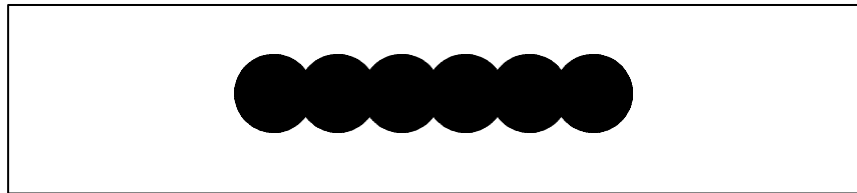

Figure 31 Normal Density Plot
Normal density plotting is selected with the odd dot plot control code ENQ (hex 05). The odd numbered dot columns are addressed to produce a vertical density that varies based on the font selected: 72 dpi vertical for Letter Gothic (DP), and 144 dpi vertical for Courier (NLQ). Figure 31 illustrates normal density dot plot.